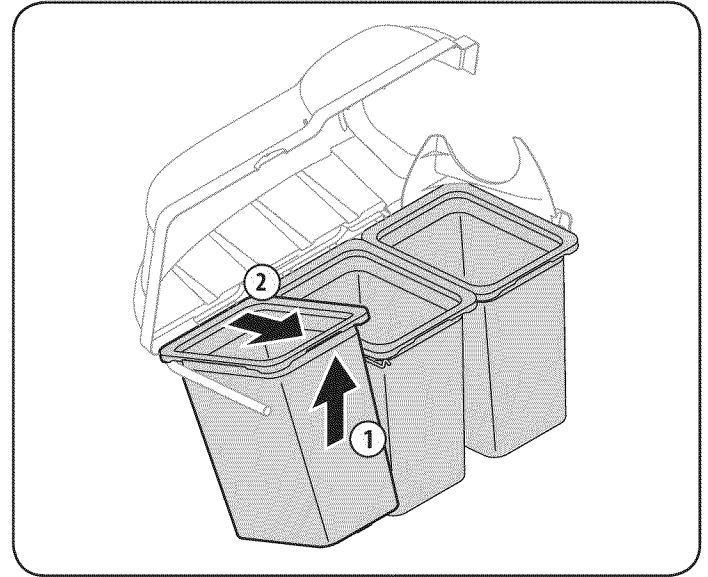

Figure 24
3. Remove the grass bags, as shown in Figure 24, by lifting each bag up (1) and moving the bags away from the bag support assembly (2).